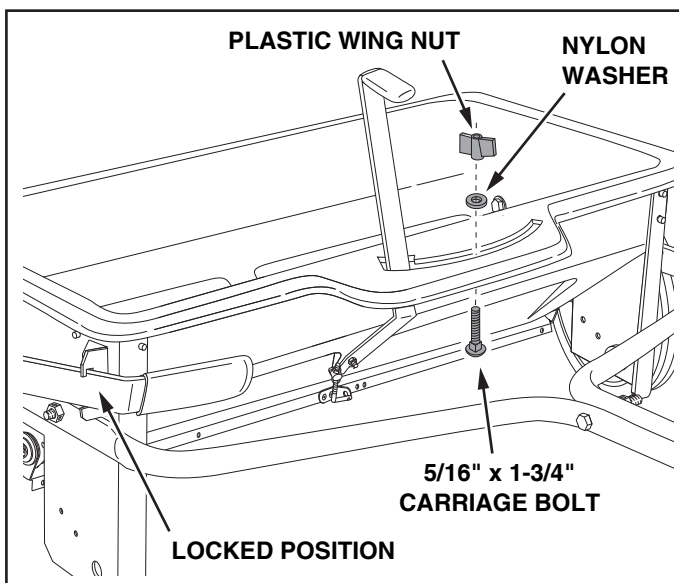

FIGURE 9
- Insert the 5/16" x 1-3/4" carriage bolt up through the slot and secure it with a nylon washer and the plastic wing nut. See figure 9.
- Move the lift handle into the locked position as shown in figure 9 and then tip the spreader back to rest on the wheels and the rear of the hopper.